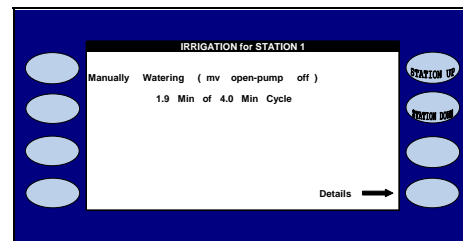

Figure 10.3
The IRRIGATION FOR STATION # screen is displayed (Figure 10.3).
The IRRIGATION FOR STATION # screen will appear for each station as it irrigates (Figure 10.3).
**Note:** The IRRIGATION FOR STATION # screen will come on for the station selected while it learns the expected flow (Figure 10.3)